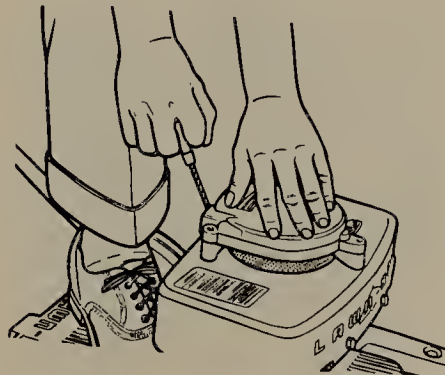

FIGURE 10.1 Check engine compression by slowly pulling the engine through the compression stroke with the starter rope.
3. Check the engine compression by slowly pulling the engine through the compression stroke with the starter. See Fig. 10.1. Be sure the ON-OFF switch is off. If the starter is of the rope-wind or rope-rewind type, you can judge the compression by the feel. For instance, if the engine spins very easily, then there is little compression, probably due to a loose cylinder head, defective head gasket, loose spark plug, cracked head or cylinder, broken piston rings or piston, or, on four-cycle engines, a defective valve that hangs open. First check the spark plug, and if it is tight, then you should look for the other causes of trouble, disassembling the engine as necessary.